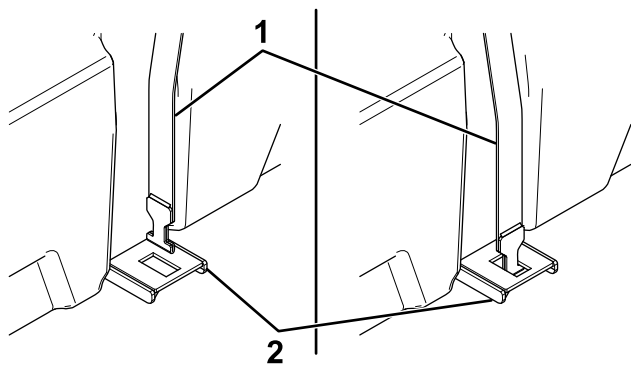

Figure 5
12. Insert the T end of the tank straps into the back of the frame rails and twist them 90° to secure (Figure 5).